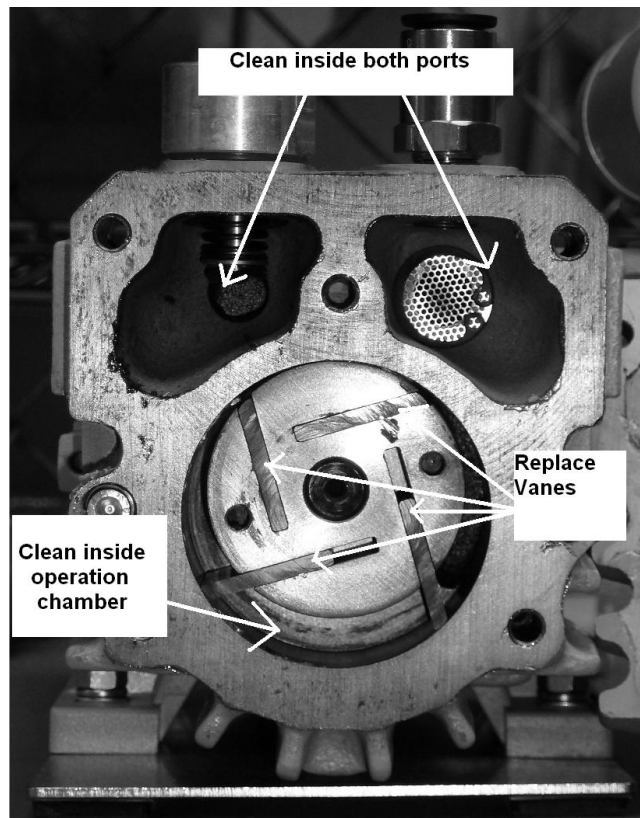
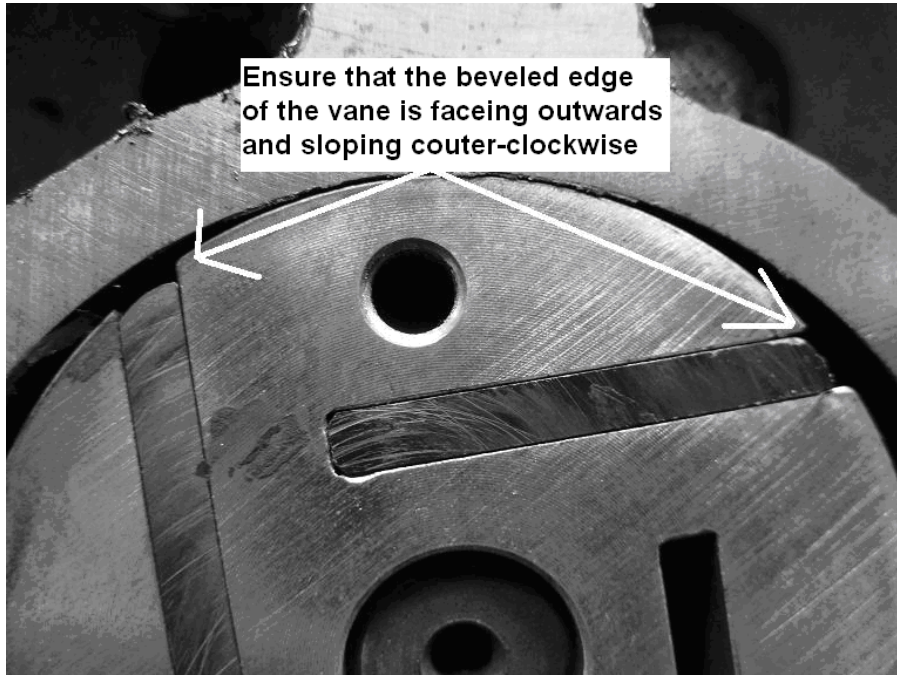
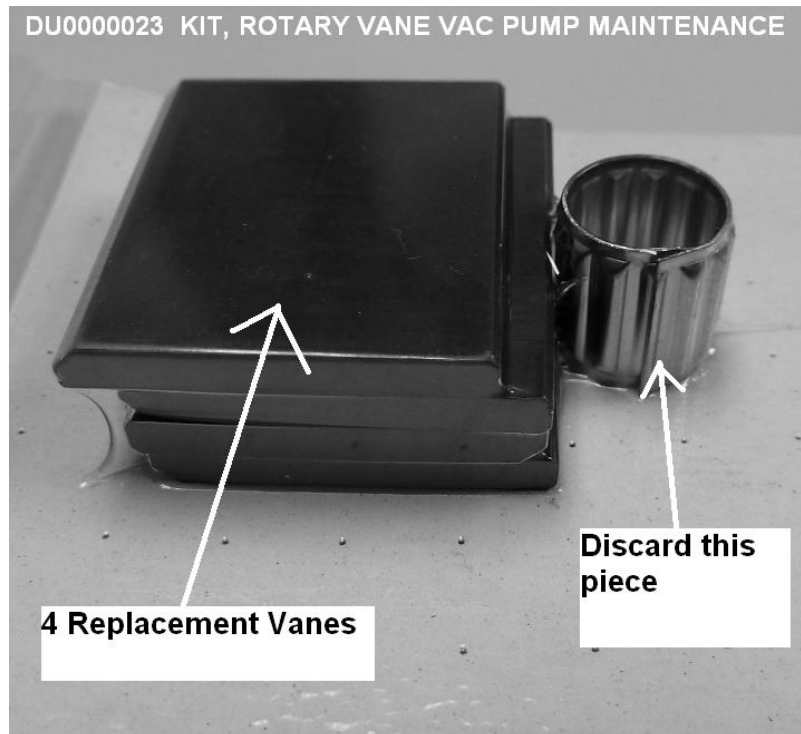

Figure 2
Figure 3
Figure 4
2. Remove the 4 Vanes from the rotor grooves. Clean inside the operation chamber and inside the inlet and exhaust ports using a dry cloth towel and compressed air (See Figure 2)
3. Insert the new vanes, from the DU0000023 kit, into the rotor grooves (See Figure 2). Take care that the beveled edge of the vane is facing outwards and sloping counter-clockwise (See Figure 3). There will be an extra cylindrical piece in the kit, this can be thrown away and is not needed (See Figure 4)